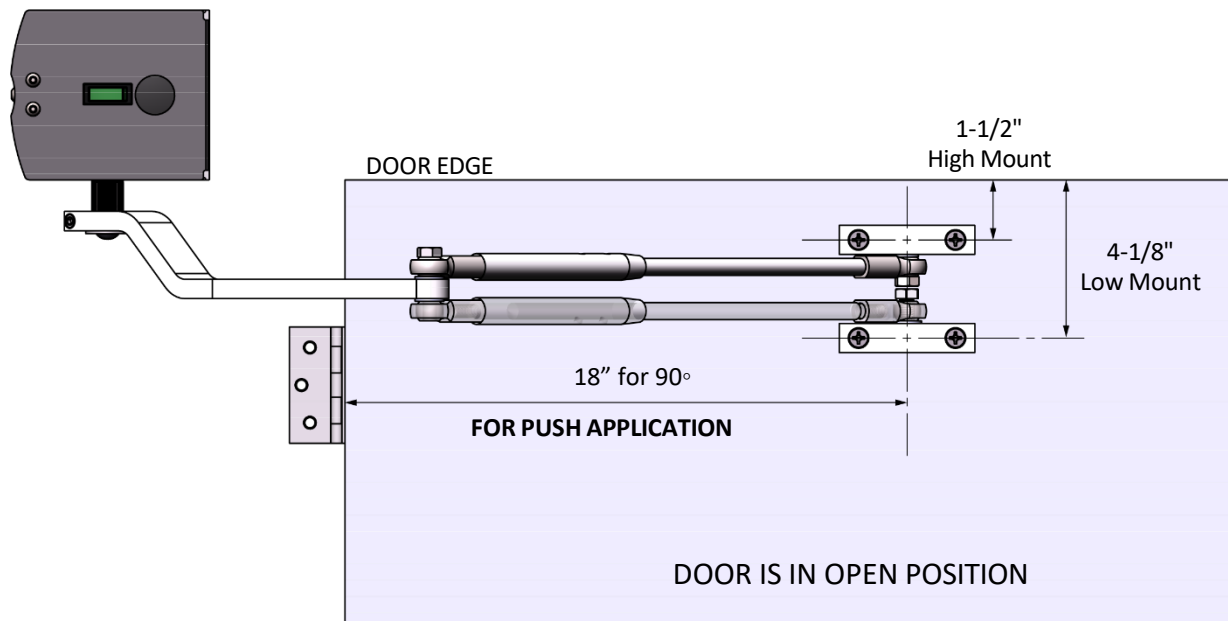

Figure 4-9 Push Arm Installation
- With the door still held in position, attach the forearm and block to the door 14-1/2" from the hinge side door edge, in the high or low mount position as shown in Figure 4-9. **Use your discretion:** The forearm must be level with the operator arm, adjust accordingly.